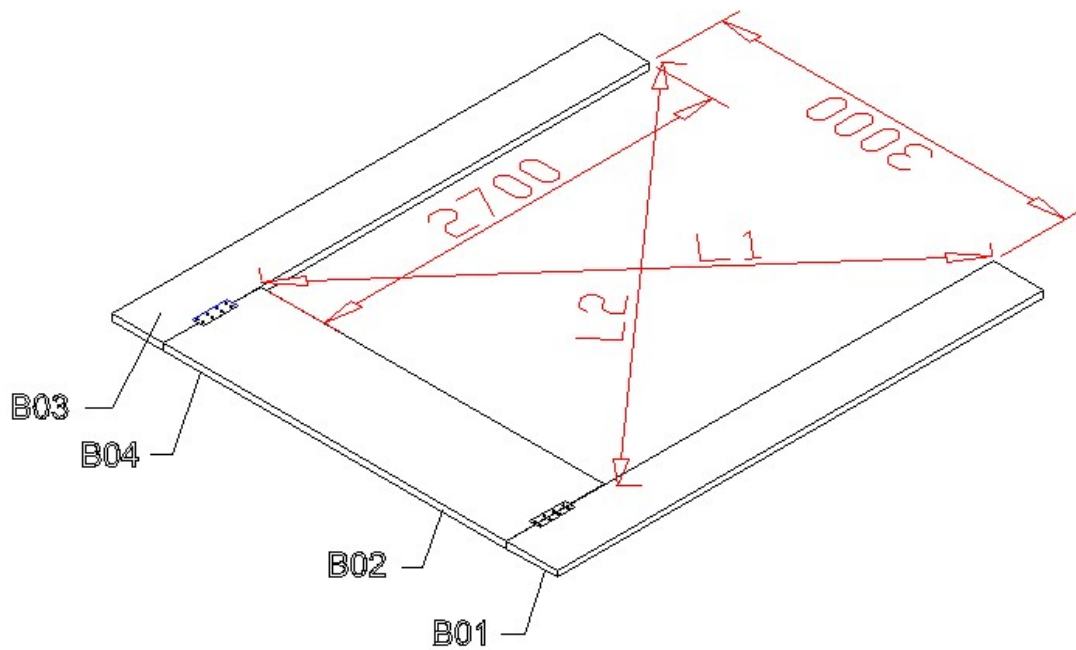

Fig. 3.6
Install the front door frame (shown in Fig.3.6)
- 2) Measure the diagonal of the length and width, when they are suitable for the demand of the door frame size (shown in Fig.3.6),  $L1=L2$ , fix the door frame with appoint connect board (B04). Pay attention to that check the sizes of the door frame after fixing.